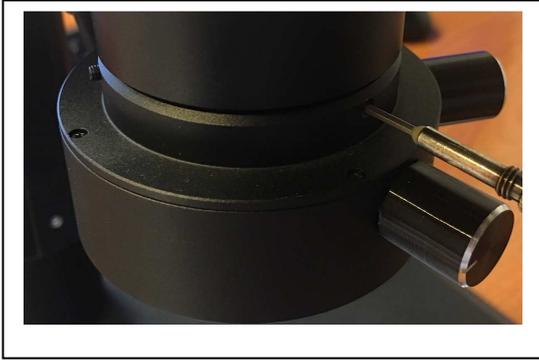

Fig. 8
1. Remove the LED ring light from the bottom of the microscope body. (Fig. 8)